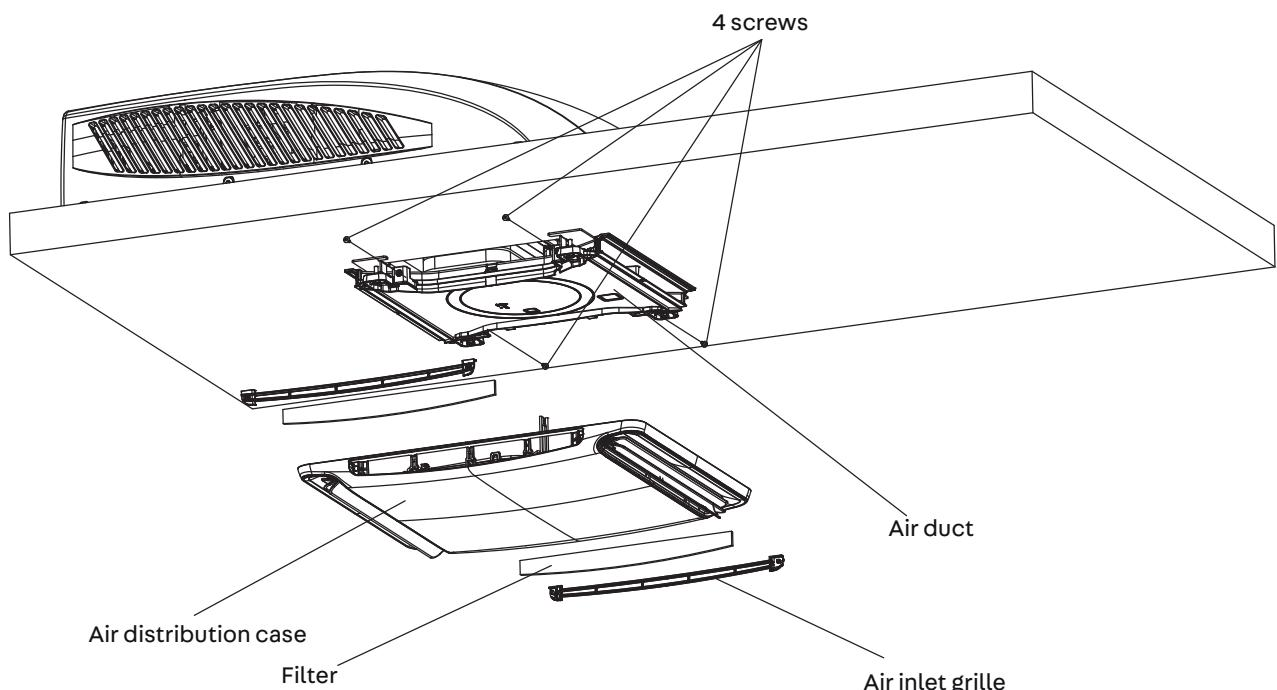

Figure 9
2. Fix the cover grille onto the air duct in the cover assembly with 4 screws (see Figure 9).